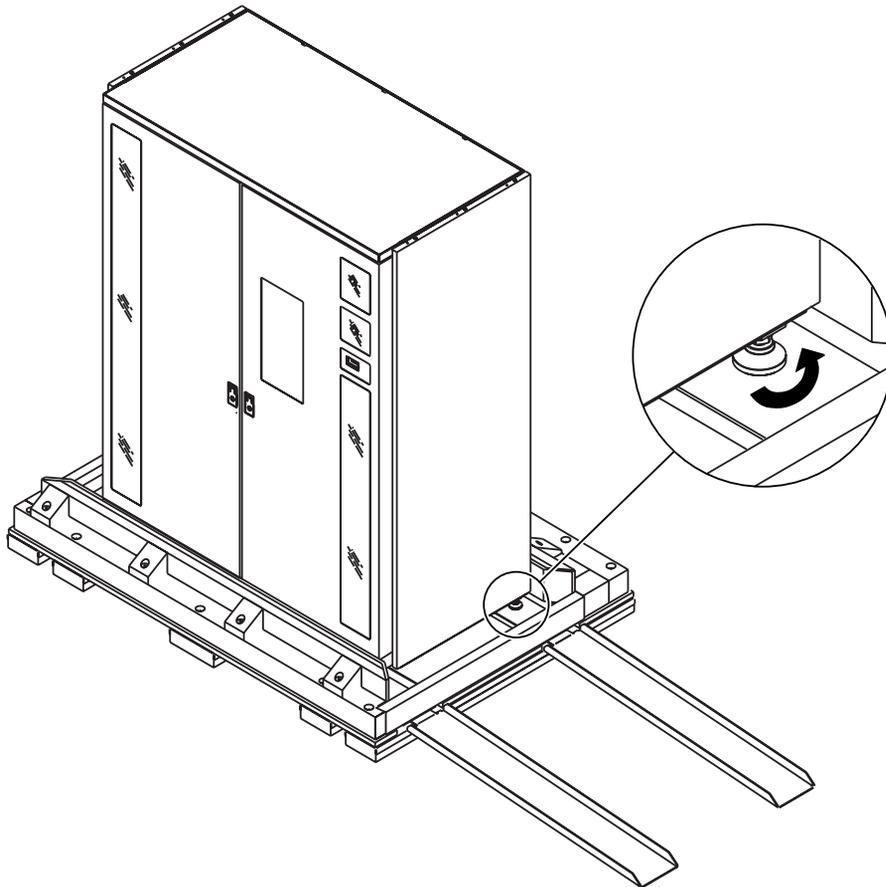

Figure 4-11: Raising the leveling feet
5. Verify that the library's four leveling feet are raised. If the library is resting on the leveling feet, turn each of them to the right (using the 3/4-inch open-end wrench supplied in the accessory kit) until they are all 1/2 inch above the pallet (see Figure 4-11).